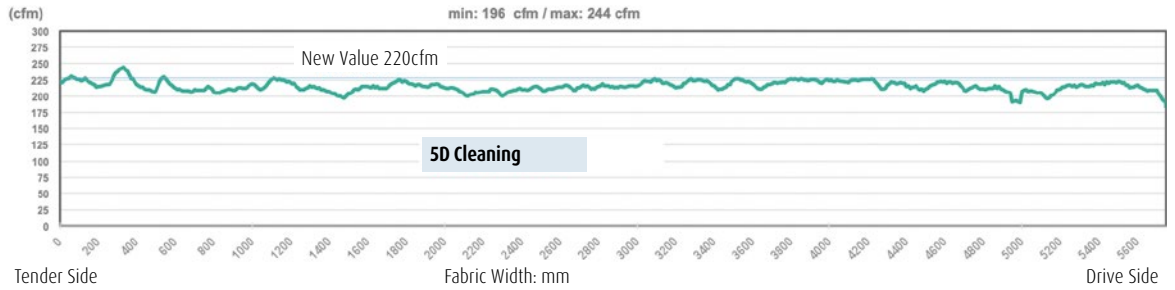

Fig. 2: Air permeability measurement after almost 70 days of operation with 5D
W. Raschka: No. The new cleaning concept was an overwhelming success everywhere. The dryer fabrics maintained almost the same air permeability values as when they were delivered throughout their entire service life. On a brown paper machine (Fig. 2), the air permeability measurement remained at “new value” after just under 70 days of operation.